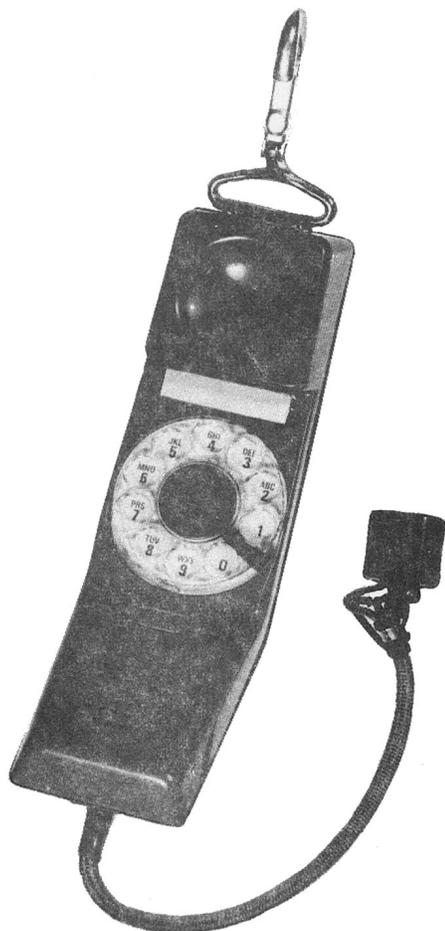

Fig. 2 – QSE4B2 Handset Using the NE-346A Plug
3.03 The QSE4 type handsets may be provided with either an NE-346A plug (see 2.06, Table A and Fig. 2) or two NSQ4100 L1 test clips (Table A and Fig. 8(a)). The test clips were primarily designed for outside plant use and will clip onto screw terminals, binding posts, wire spring relay terminals as well as connecting blocks, lead and drop wire as shown in Fig. 8(b) through 8(g).